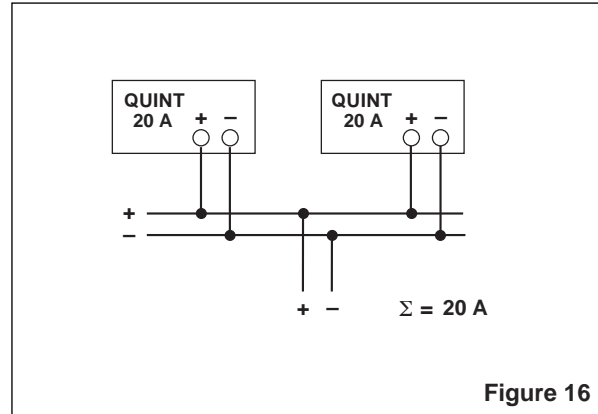

Figure 16
7.4. Redundancy Operation (Figure 16)